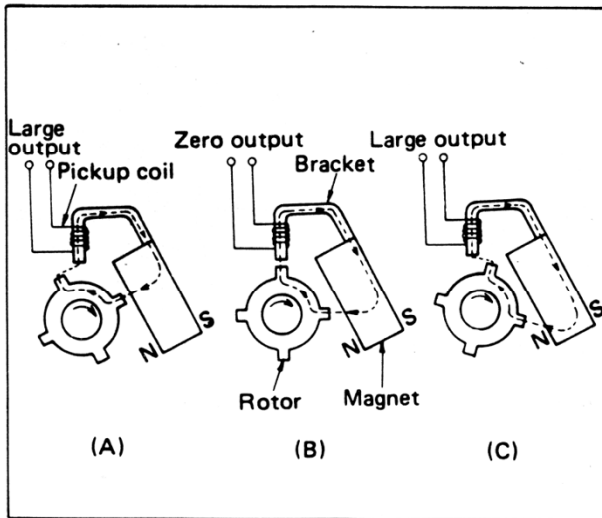

Fig. 9-202 Ignition Signal Generator Mechanism
When the engine is started and the signal rotor begins to rotate, the air gap at the projected part of the signal rotor changes, as shown in (A), (B) and (C) in Fig. 9-202. The amount of magnetic flux that passes through the pickup coil changes accordingly. Voltage is generated at the both ends of the pickup coil in accordance with such change in the magnetic flux. The generated voltage is higher when the change in the magnetic flux is greater. Voltage is much less when the flux change is less.
The voltage generation is maximized when the projected portion of the signal rotor is approaching the center of the pickup coil (when air gap is decreasing and the magnetic flux increases, as in (A) in Fig. 9-202), and when it leaves the center (air gap is increasing and magnetic flux decreases, as in (C) in Fig. 9-202. Polarity is reversed.